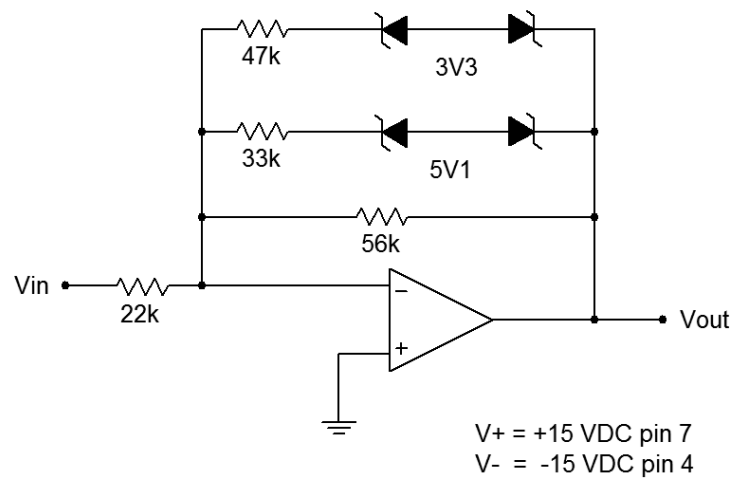

Figure 2
7. Calculate the break-points and slopes for the input/output transfer curve of the circuit in Figure 2. Record these values in Table 2.
8. Assemble the circuit of Figure 2.
11. Continuing with the circuit of Figure 2, estimate and then measure the results for each individual error presented in Table 3.
2. What happens in Figure 2 when the 33k Ω and 47k Ω are swapped?